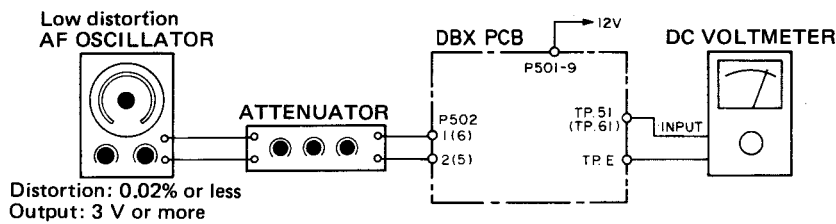

Fig. 5-14
6. Like Fig. 5-14, connect a DC voltmeter to TP51/TP61, then note the reading on the DC voltmeter with an input signal of 1 kHz/ $-8$  dB (308 mV).
9. Check that when the input signal is 100 Hz/ $-8$  dB (308 mV), then 10 kHz/ $-8$  dB, the output signal from 3(4) terminal (OUTPUT) deviates by  $+0.5$  dB  $\pm 0.5$  dB, then  $-2.8$  dB  $\pm 0.5$  dB from  $-8$  dB (reference), respectively..... so that output, as a voltage value, should be 308 mV to 346 mV for 100 Hz, and 211 mV to 237 mV for 10 kHz.